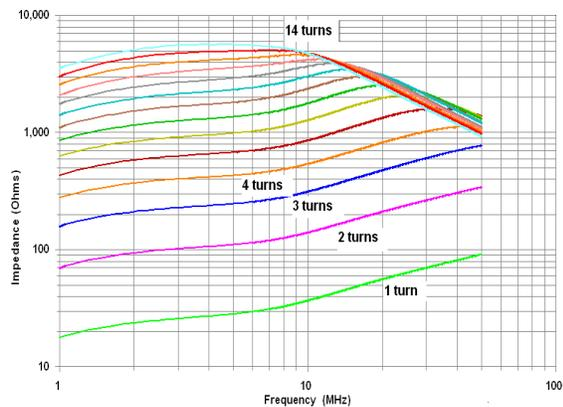
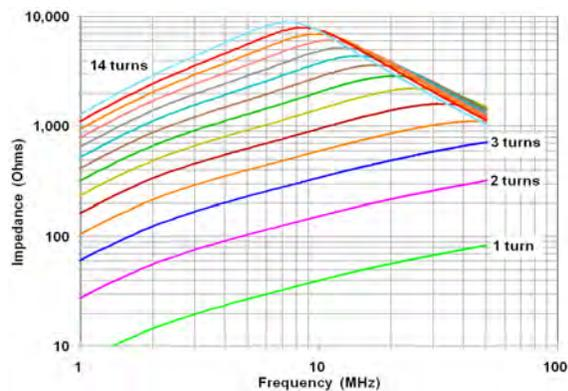

Fig 18a – Impedance of multi-turn chokes on a 2.4" o.d. toroidal core , but made of Fair-Rite's new#31 mix (Measured Data)
Fig 19a – Impedance of multi-turn chokes like those of Fig 16a, but on a Fair-Rite #43 core. (Measured data)
**New #31 Material is a Problem Solver** The relatively new #31 material made by Fair-Rite Products is extremely useful, especially if some component of your problem is below 5 MHz. Measured data for the new material is displayed in Figs 18a and 18b. Compare it with Figs 19a and 19b, which are corresponding plots for the older #43 material. By comparison, #31 provides nearly 7 dB greater choking impedance at 2 MHz, and at least 3 dB more on 80 meters. At 10 MHz and above, the two materials are nearly equivalent, with #43 being about 1 dB better. If your goal is suppression or a feedline choke (a so-called current balun), the #31 material is the best all round performer to cover all HF bands, and is clearly the weapon of choice at 5 MHz and below. Between 5 MHz and 20 MHz, #43 has a slight edge (about 1 dB), and above 20 MHz they're equivalent. We'll discuss baluns in detail in Chapter 6.
**A Design Example:** Ten turns of the positive DC lead for a mobile transceiver is wound around our standard #31 2.4" toroid, and the DC current for our mobile transceiver is 1A on receive. The catalog tells us that H is 0.09 oe for 1 Ampere Turn, so  $H = 0.9$  oe in our 10-turn choke, which reduces impedance to 40% of the measured value at 10 MHz and 50% at 25 MHz. If we were to re-plot the data with H as constant and frequency on the horizontal axis, we could extrapolate impedance of about 32% at 5 MHz. Applying these correction factors to the data of Fig 18a tells us that with 1A of bias, we could expect our 10 turn choke to look like about 1,100  $\Omega$  at 5 MHz, 1,600  $\Omega$  at 10 MHz, and 2,000  $\Omega$  at 20 MHz. This is still a fairly reasonable choke, and should provide reasonable noise suppression for receiving. When transmitting, however, this choke will be severely saturated, reducing its impedance to about 250 ohms at 10 MHz. Thus, if we suspect transmitter RF coupling via the radio's power lead to the automotive electrical system, we would use a larger ferrite part – one that has a much larger cross sectional area for flux, like the "big clamp-on" of Fig 38.